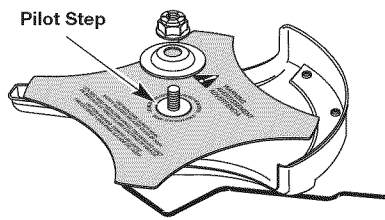

Fig. 8
2. Make sure that the cutting blade is centered on the pilot step and sitting flat against the output shaft bushing (Fig. 8).